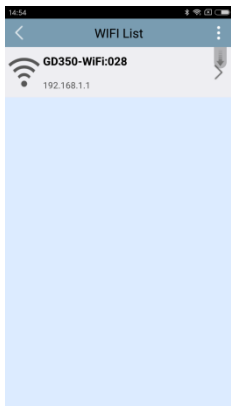

Figure 6
- (4) Use the application in the remote monitoring mode.
- A. Remote monitoring can be implemented only in the WiFi communication mode. Click **WiFi setup** on the homepage of the application to enter the **WiFi list** page, as shown in Figure 6.